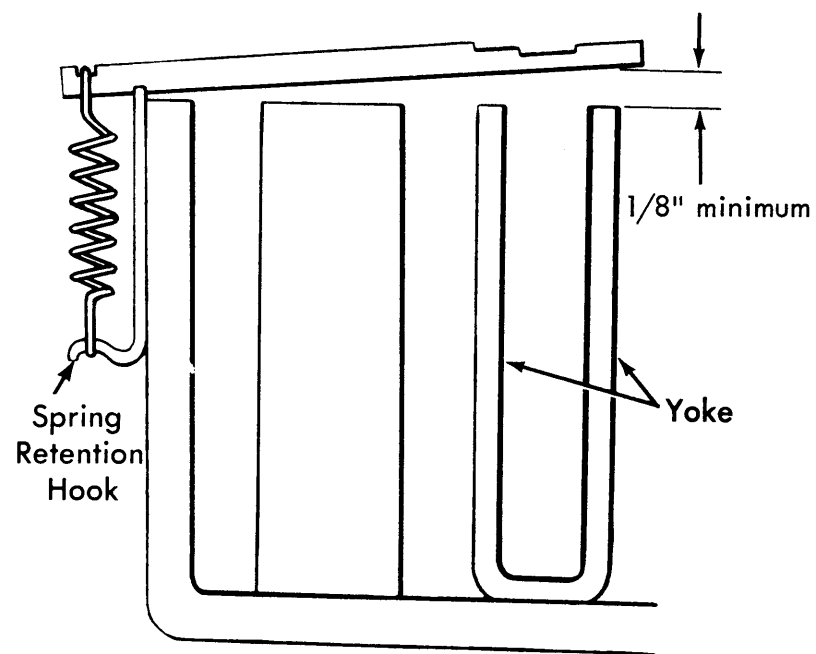

Figure 4-16. Armature Adjustment
2. Form armature pivot by lifting tip of the armature until there is at least 1/8-inch free movement to the operating end (Figure 4-16).